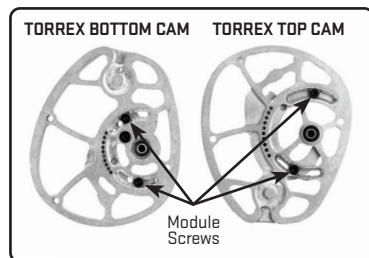

Fig. T-1
**Both Top and Bottom Cam:** To adjust the draw length of Hoyt's Torrex and Torrex XT cams with a rotating inner-cam module with draw stop pegs, use the appropriate Torx wrench (T15 or T10 for most modules) to loosen both module screws 1.5 – 2 full turns (see **Fig. T-1**). There is no need to completely remove either of the module screws during adjustment, only loosen them.